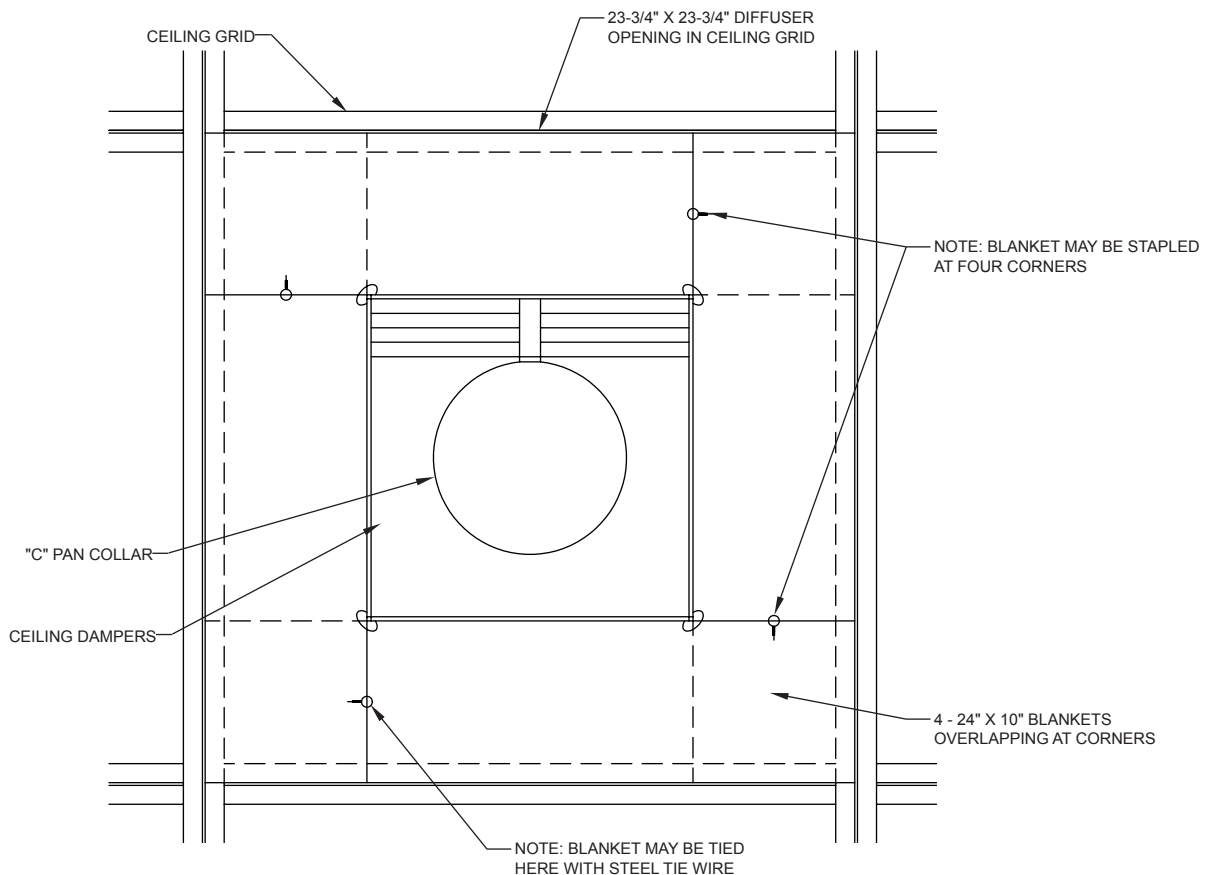

FIG. 5
5. The TB5000 (#5 above) shall be cut into four 10" x 24" pieces and placed over the top of the diffuser housing against the web of the suspension system tees, as shown on the enclosed sketch (plan view, FIG. 5). The pieces of blanket must cover the entire area of the diffuser housing and be tied together at the overlaps near the corner of the duct drop with steel tie wire (#3 above), or staples may be used at the four corners (plan view, FIG. 5); this is to insure that they will not come apart or slide down and expose the diffuser housing when subject to periodic vibrations over extended periods of time.